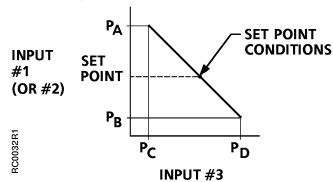

Figure 9. Graph of Percent Authority Formula.
Step 2 Determine Percent Authority Setting using Formula B (Figure 9) or graphically.
- For two and three input receiver-controllers the setpoint conditions equal the midpoint of the usable portion of the schedule. See Figure 9. This is expressed in percent RH, degrees Fahrenheit, inches W.G., or metric units.